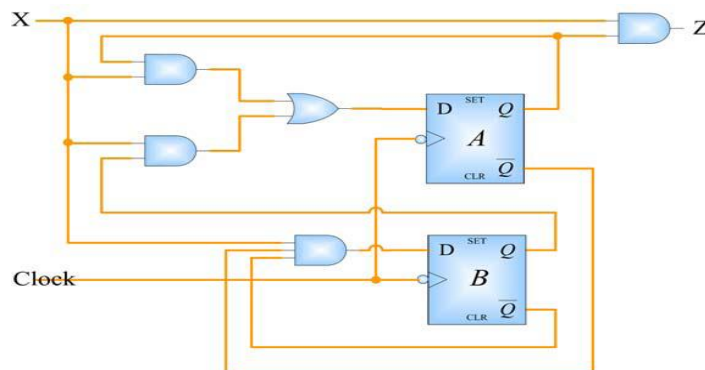

Figure 5: Mealy State Machine Circuit Implementation
- The logic diagram for this state machine is shown in Figure 5. Note that negative edge triggered flip-flops are used.